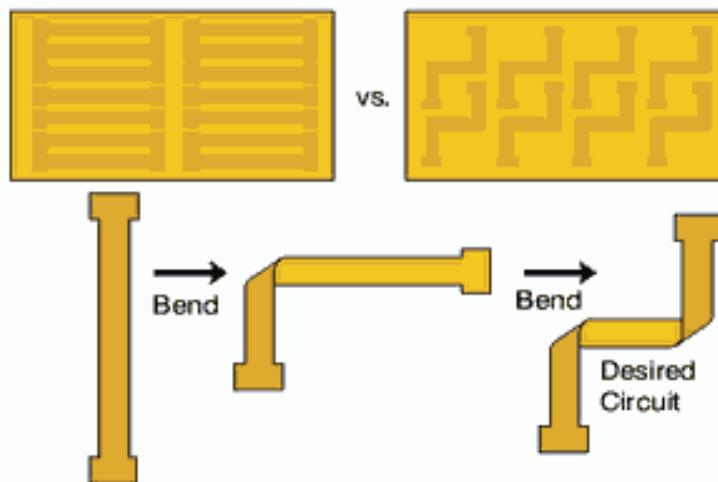

Figure 15 – Nested Flex Designs on a Panel
- Consider how flex circuits will be "nested" on a panel (Figure 15)